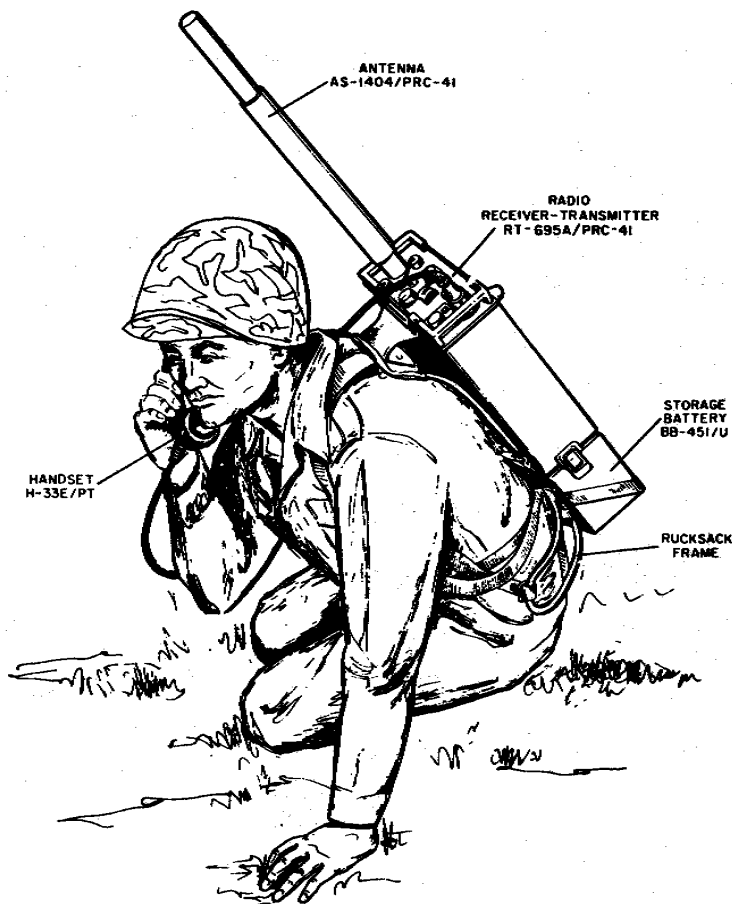

Figure 2-4. Radio Set AN/PRC-41A, Man-Pack Installation
The assembly layout of Radio Set AN/PRC-41A is dependent on the type of installation required. Radio Set AN/PRC-41A may be assembled for man-pack, fixed station, or vehicular operation. Refer to figures 2-4 through 2-7. For outline and mounting dimensions, refer to figures 2-13 through 2-17.
a. **MAN-PACK INSTALLATION.** (Refer to figure 2-4)- In man-pack installation, Radio Receiver Transmitter RT-695A/PRC-41 is provided primary power by Storage Battery BB-451/U, and Antenna